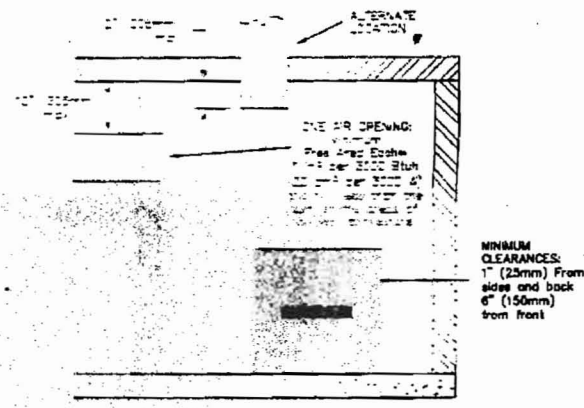

Figure 1.6: Air Openings - All Air from Outdoors through One Opening
b. **One Permanent Opening Method:** Provide one permanent opening beginning within 12 inches (305 mm) of the top of the space. The opening shall communicate directly with the outdoors through a vertical or horizontal duct or communicate with a space that freely communicates with the outdoors. The opening shall have a minimum free area of 1 in² per 2000 Btu/hr of total rated input for all appliances in the space and not less than the sum of the cross-sectional areas of all vent components in the space. The gas-fired equipment shall have clearances of at least 1 inch (25 mm) from the sides and back and 6 inches (150 mm) from the front of the appliance. See Figure 1.6 for this arrangement.